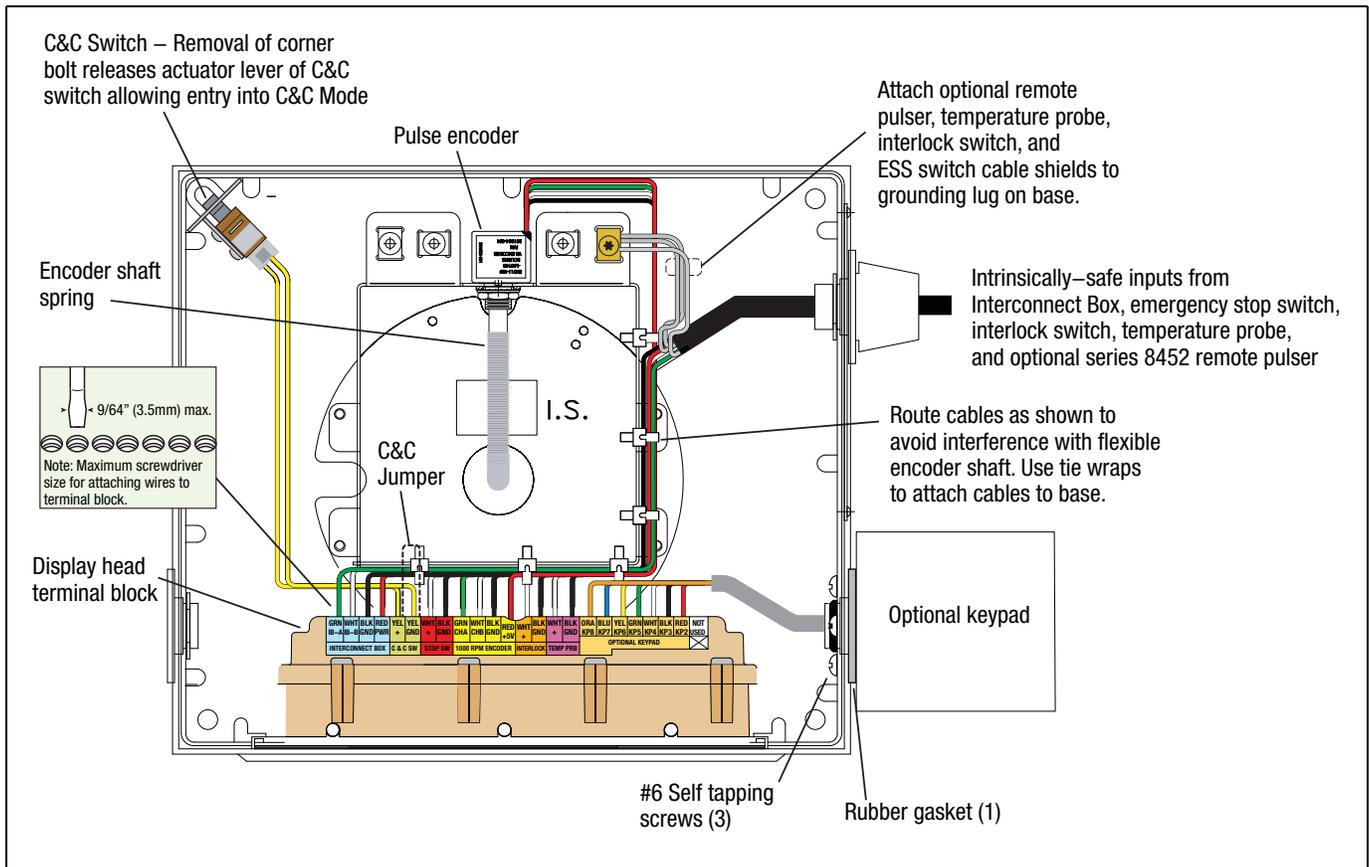

Figure 38. Display Head Cable Wiring And Switch Locations
2. Slide the cord grip nut and then the bushing over the IB cable leads. Pull enough cable through so that the leads reach the terminal block on the display assembly and can be tie wrapped to the pulse encoder mounting base as shown in Figure 38. Slide the tapered end of the bushing into the cord grip, then screw on the cord grip nut and tighten securely.
3. Attach the four-wire IB cable to the terminal block as shown in Figure 38.
4. If you have the optional temperature probe and/or ESS switch, remove the lower cord grip nut and slide it, then the tapered bushing, over the temperature probe cable and/or ESS switch cable. Pull enough cable through so that the leads reach the terminal block on the display assembly and can be tie wrapped to the pulse encoder mounting base as shown in Figure 38. Slide the bushing into the cord grip and then screw the cord grip nut onto the cord grip and tighten securely. Attach the shield of the temperature probe cable to a grounding lug on the Pulse Encoder mounting base.
1. A standard C&C corner switch assembly (P/N 845900-018) that fits into one corner of the Display Head's housing (see Figure 38). To enter C&C mode, remove the corner bolt from the Display Head's cover. To exit C&C mode, replace the bolt.
Figure 38 shows the installation and wiring of the optional keypad. To attach the keypad housing mounting screws, you will need to pull/slide up the display assembly away from the Display Head. Insert the keypad wires through the center hole in the gasket, slide the gasket down against the keypad and align its three holes with the mounting holes in the keypad. Hold the keypad against the Display Head and screw in the 3 mounting screws, replace the display assembly and then connect the keypad wiring to the terminal block as shown in Figure 38. The screws are self-tapping. The user may want to pre-tap the holes using the screw to ease installation.